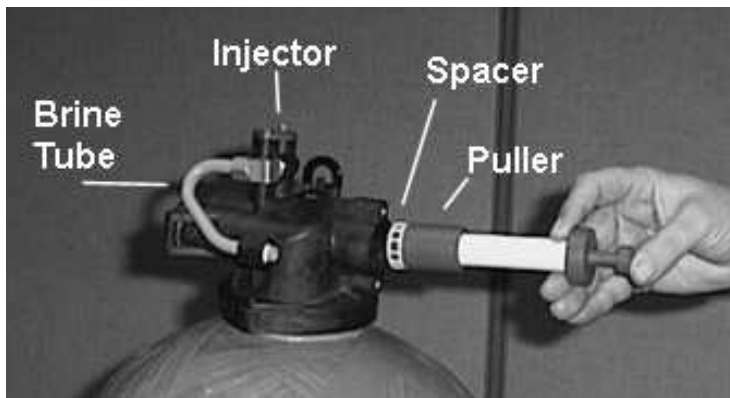

Figure 7
8. Insert the pin end of the spacer tool into the valve body with the pins retracted (button pulled back). Push the tool tight against the spacer and push the button in (see Figure 7). When the button is pushed in, the pins are pushed out to engage the 1/4 dia. holes in the spacer. Remove the tool from the valve body. The spacer will be on the end. Pull the center button back, the pins will be retracted and the spacer can be removed from the spacer tool.